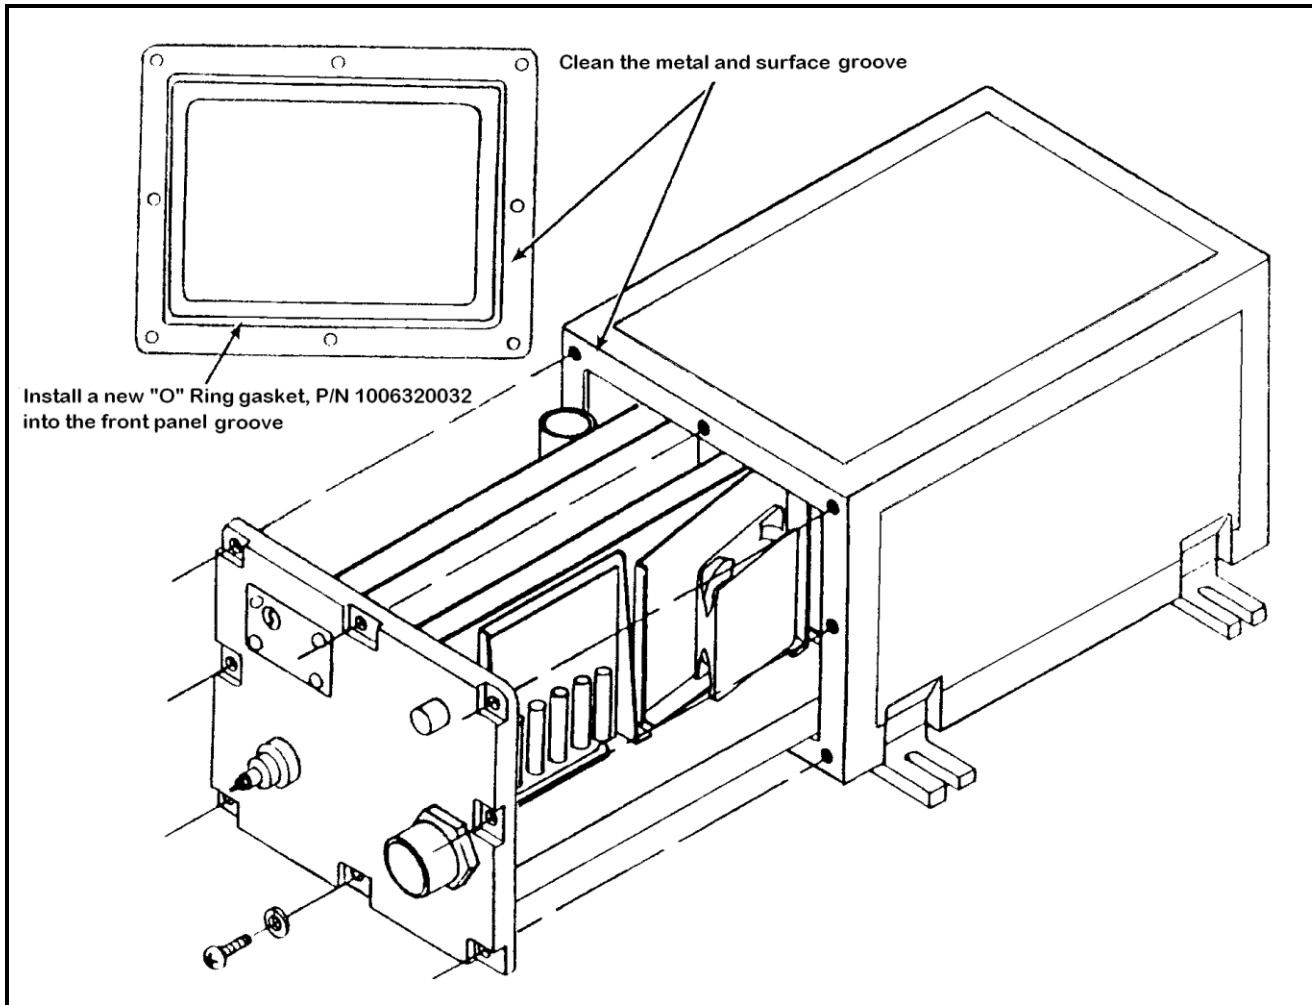

Figure 5.1 CU-9125 Antenna Coupler Cover Removal.
1. The complete outside of the coupler unit should be washed with fresh water every two (2) weeks.
2. Once a year open the coupler unit and remove the old gasket. Clean the metal surface and groove in the front panel. Clean the metal surface on the case. Install a new "O" Ring Gasket P/N 1006320032 into the front panel groove and reassemble coupler unit. See Figure 5.1.
If upon completion of the Performance Test Procedures, the CU-9125 is not operating properly, accomplish the following alignment procedures. Remove Antenna Coupler from case, see Figure 5.1.